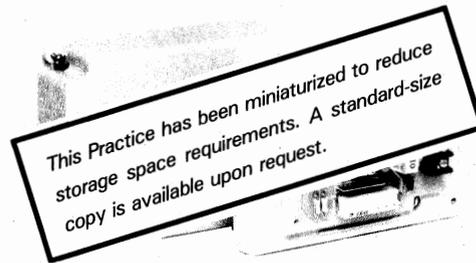

Figure 1. 7480-03 2-Wire CSU Interface
- 1.01 This Practice provides circuit description, installation procedures, and basic testing information for the Wescom 7480-03 2-Wire Customer Service Unit (CSU) Interface, shown in Figure 1.